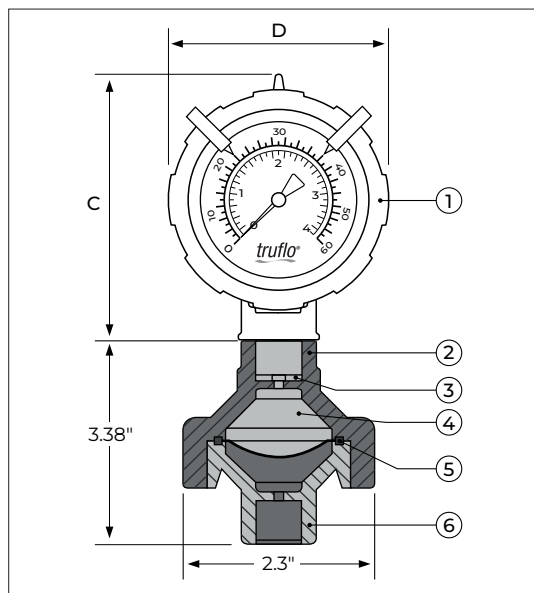

Fig. 2. Section Drawing
-  Before installation in the pipeline, the GI Series Isolator must be filled and the pressure gauge must be filled and mounted. Follow the section drawing for assembly (Fig. 2, Page 4).